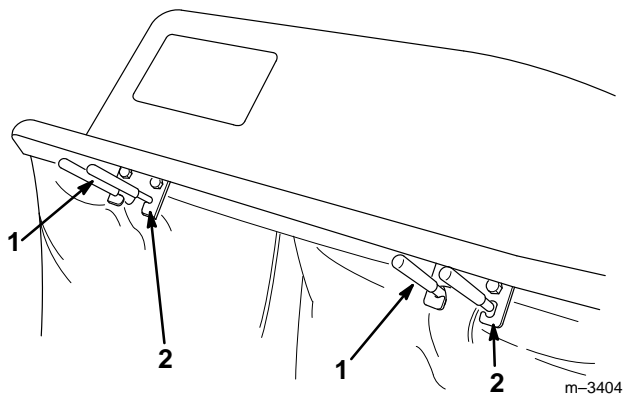

Figure 7
2. Lift the rear of the bag up to the bag cover. Squeeze the bag handles and allow them to snap into the bag frame brackets (Fig. 7).
6. Lift the rear of the bag up to the bag cover. Squeeze the bag handles and allow them to snap into the bag frame brackets (Fig. 7).